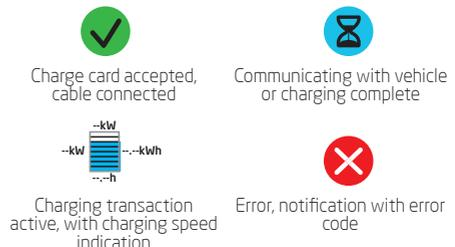

Figure 2: Symbols status indicator
- Status indicator (symbols, see figure 2)